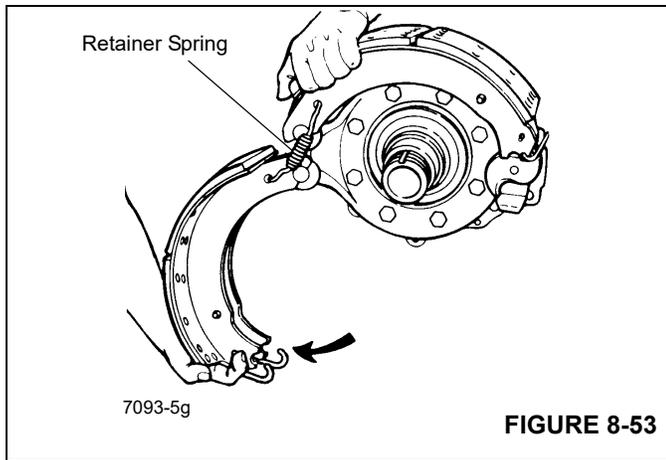

FIGURE 8-53
4. Rotate the bottom shoe to relieve tension on the retaining springs (Figure 8-53). Remove the springs and brake shoes.